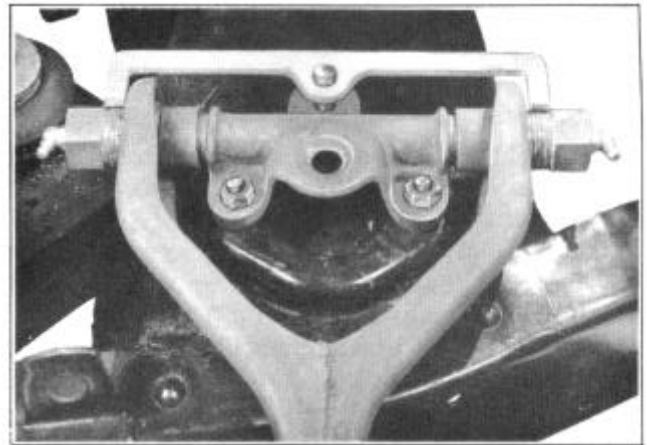

FIGURE 9
1. Install the gauge tool J-1360, Figure 9, on the outer stud of the pivot.